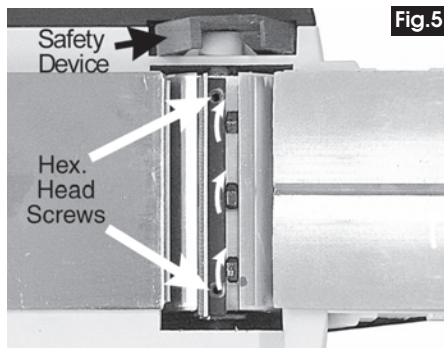
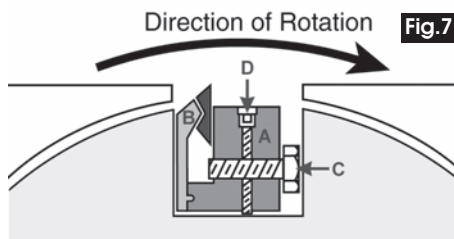

Fig.5
Fig.7
Replacing the cutters (fig. 5)
3. Turn the three securing screws (C, Fig.7) fully, in the direction shown in Fig.5.
5. Tap the cutter block assembly gently in order to free the cutter blade, which will either slide out, or the clamping plate - 'B', Fig.7 will become detached from the clamping block 'A' Fig.7, allowing the blade to be removed.
8. Secure the cutter block by screwing the screws C, Fig.7 OUT until each one just touches the side of the recess in the cylinder, then tighten the two outer screws first followed by the centre screw.
If adjustment is necessary, screw the hex. socket head screws - D, Fig 7, (and also shown in Fig. 5), in or out as required, until the cutter blade just touches the straight edge, along its entire length. i.e. the blade must be parallel across the base of the machine.